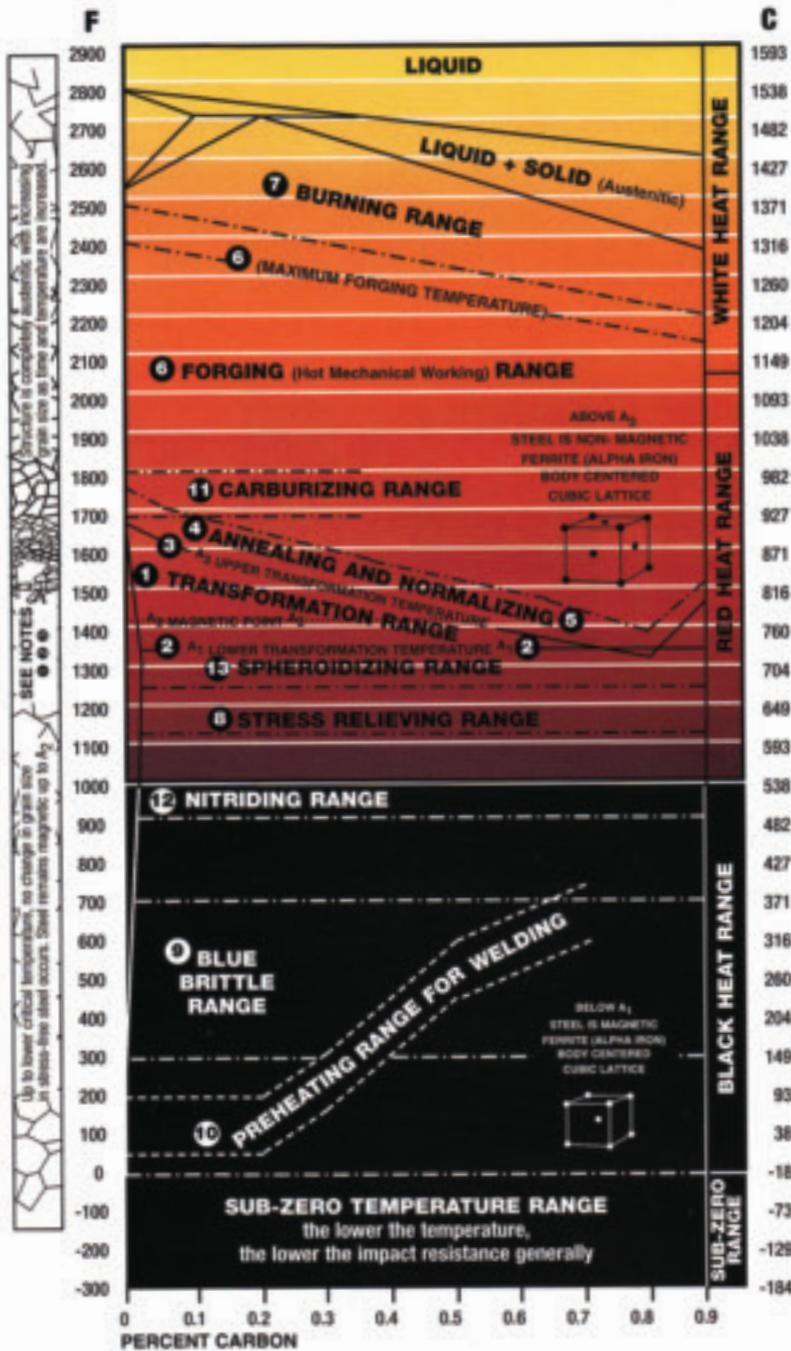

Fig. 1 — A basic guide to ferrous metallurgy.
**Welders know, and ASME codes reinforce, the need for preheating many ferrous metals prior to welding — Fig. 1. A successful weld unites the welding filler metal and the base metal into one entity; a good weld is at least as strong as the base materials being joined.**